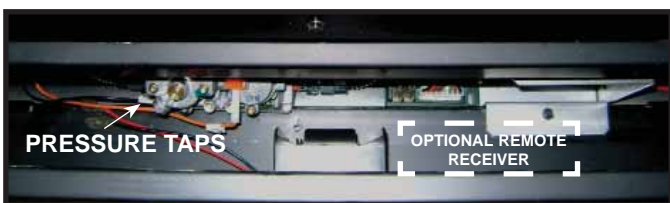

Figure 11.5 Valve Pressure Taps and Remote Receiver Location
The pressure taps are available through the front of the appliance. The decorative mesh front and fireplace gas assembly must be removed to gain access to the pressure taps. See Figure 11.5.
**NOTE:** Install optional remote receiver adjacent to battery pack. See Figure 11.5.